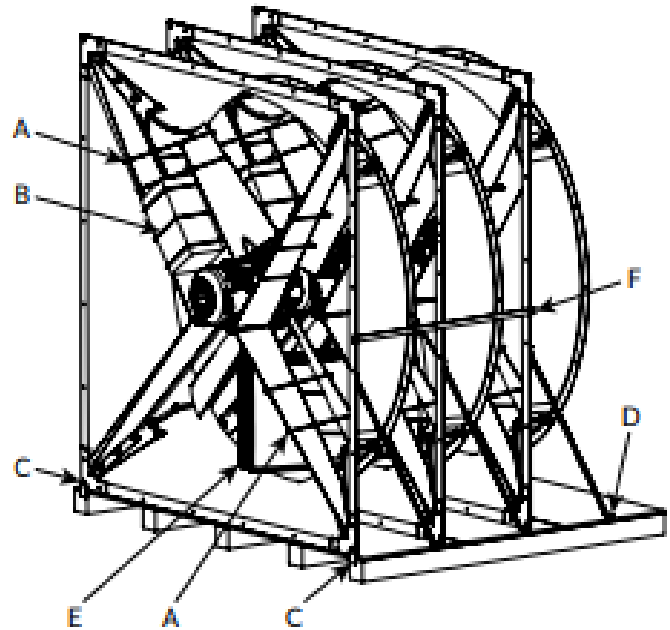

Figure 1-1. Pallet Unpacking
Do not remove zip ties (A) during transportation and installation to prevent equipment damage or personal injury. See Figure 1-1.
1. Start by removing zip ties and stabilizing packing material (B & E) using cutting pliers. See Figure 1-1. Retain packing material for future installation.
3. Remove the horizontal bracket (F) on each fan.
4. Separate fans individually with a reciprocating saw, by cutting behind the lower angled bracket (D) and through the wooden pallet.
Be sure zip ties (A) are removed prior to operation to prevent equipment damage. See Figure 1-1.